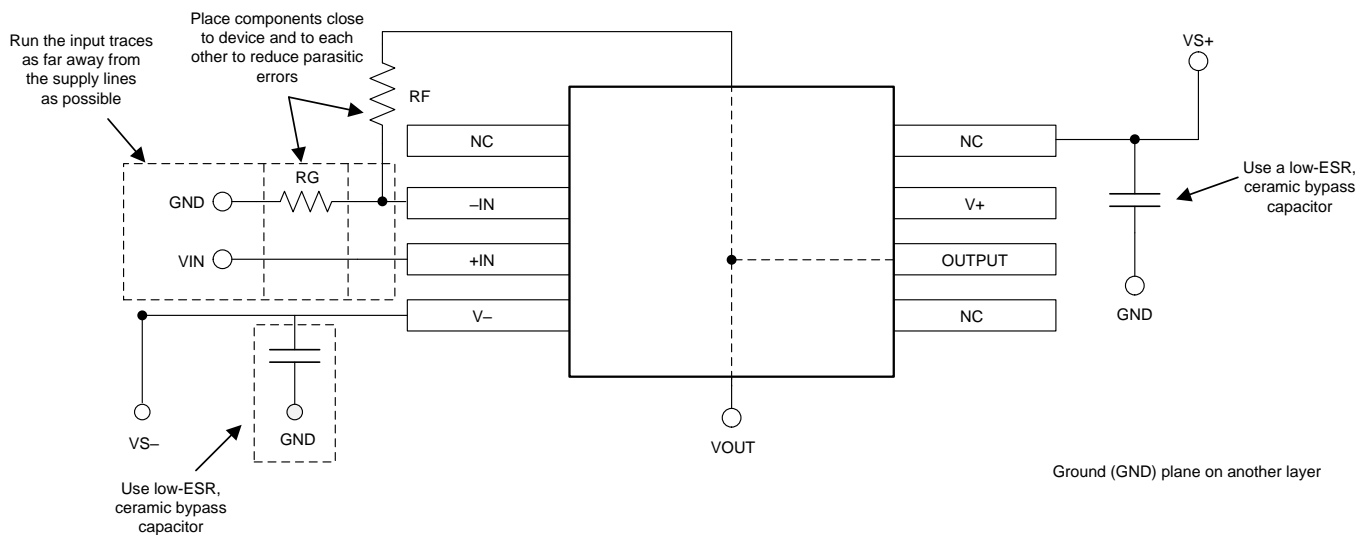

图 35. Operational Amplifier Board Layout for Noninverting Configuration
- Place the external components as close to the device as possible. As shown in Figure 35, keeping RF and RG close to the inverting input minimizes parasitic capacitance.